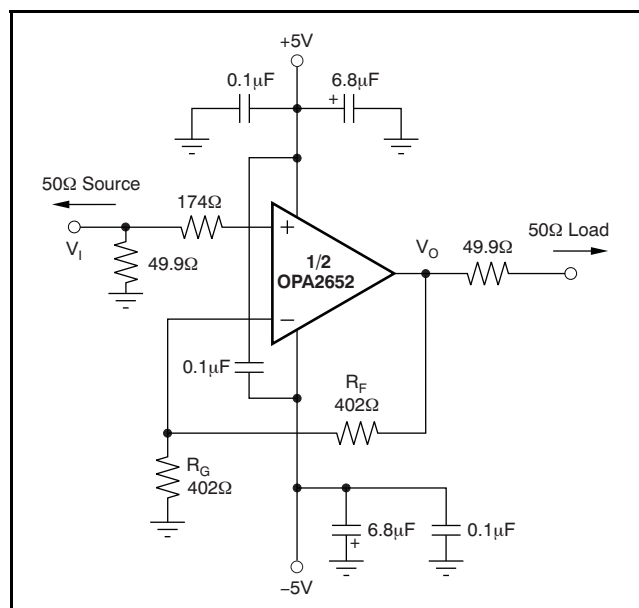
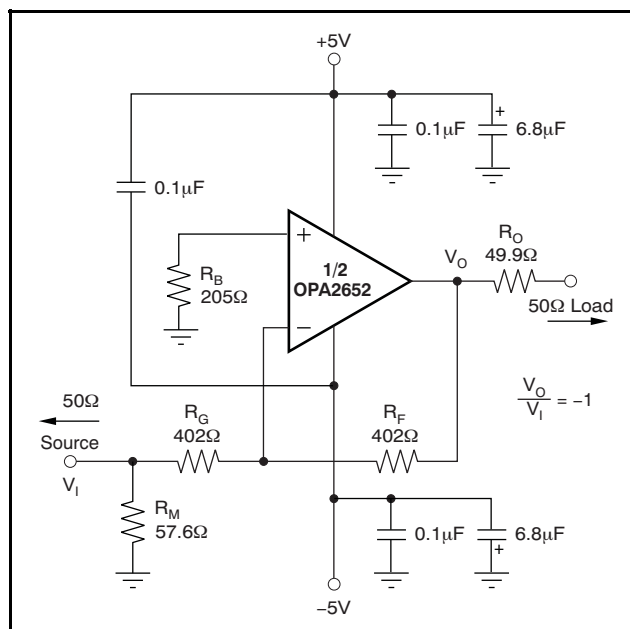

Figure 28. DC-Coupled,  $G = +2$ , Bipolar Supply, Specification and Test Circuit
Figure 29. DC-Coupled,  $G = -1$ , Bipolar Supply, Specification and Test Circuit
At  $T_A = +25^\circ C$ ,  $G = +2$ ,  $R_F = 402\Omega$ , and  $R_L = 100\Omega$ , unless otherwise noted. See Figure 28 and Figure 29 for AC performance only.
At  $T_A = +25^\circ\text{C}$ ,  $G = +2$ ,  $R_F = 402\Omega$ , and  $R_L = 100\Omega$ , unless otherwise noted. See Figure 28 and Figure 29.
At  $T_A = +25^\circ C$ ,  $G = +2$ ,  $R_F = 402\Omega$ , and  $R_L = 100\Omega$ , unless otherwise noted. See Figure 28 and Figure 29.
Figure 28 shows the DC-coupled, gain of +2, dual power-supply circuit configuration used as the basis of the  $\pm 5\text{V}$  specifications and typical characteristics. This configuration is for one channel. The other channel is connected similarly. For test purposes, the input impedance is set to  $50\Omega$  with a resistor to ground and the output impedance is set to  $50\Omega$  with a series output resistor.
Voltage swings reported in the specifications are taken directly at the input and output pins, while output powers (dBm) are at the matched  $50\Omega$  load. For the circuit of Figure 28, the total effective load will be  $100\Omega \parallel 804\Omega$ . Two optional components are included in Figure 28.
Figure 29 shows the DC-coupled, gain of  $-1$ , bipolar supply circuit configuration that is the basis of the specifications and typical characteristics at  $G = -1$ . The input impedance matching resistor ( $57.6\Omega$ ) used for testing gives a  $50\Omega$  input load. A resistor ( $205\Omega$ ) connects the noninverting input to ground. This configuration provides the DC source resistance matching to cancel outputs errors arising from input bias current.
A good rule of thumb is to target the parallel combination of  $R_F$  and  $R_G$  (see Figure 28) to be less than approximately 300Ω. The combined impedance  $R_F \parallel R_G$  interacts with the inverting input capacitance, placing an additional pole in the feedback network, and thus a zero in the forward response. Assuming a 2pF total parasitic on the inverting node, holding  $R_F \parallel R_G < 300\Omega$  keeps this pole above 250MHz. By itself, this constraint implies that the feedback resistor  $R_F$  can increase to several kΩ at high gains. This increase is acceptable as long as the pole formed by  $R_F$  and any parasitic capacitance appearing in parallel is kept out of the frequency range of interest.
Voltage feedback op amps exhibit decreasing closed-loop bandwidth as the signal gain is increased. In theory, this relationship is described by the Gain Bandwidth Product (GBP) shown in the specifications. Ideally, dividing GBP by the noninverting signal gain (also called the Noise Gain, or NG) predicts the closed-loop bandwidth. In practice, this prediction only holds true when the phase margin approaches 90°, as it does in high gain configurations. At low gains (increased feedback factor), most amplifiers exhibit a wider bandwidth and lower phase margin. The OPA2652 is compensated to give a flat response in a noninverting gain of 1 (see Figure 28). This configuration results in a typical gain of +1 bandwidth of 700MHz, far exceeding that predicted by dividing the 200MHz GBP by  $NG = 1$ . Increasing the gain
Because the OPA2652 is a general-purpose, wideband voltage feedback op amp, all of the familiar op amp application circuits are available to the designer. Inverting operation is one of the more common requirements and offers several performance benefits. Figure 29 shows a typical inverting configuration.
In the inverting configuration, three key design consideration must be noted. First, the gain resistor ( $R_G$ ) becomes part of the signal channel input impedance. If input impedance matching is desired (which is beneficial whenever the signal is coupled through a cable, twisted pair, long PCB trace or other transmission line conductor),  $R_G$  may be set equal to the required termination value and  $R_F$  adjusted to give the desired gain. This approach is the simplest, and results in optimum bandwidth and noise performance. However, at low inverting gains, the resulting feedback resistor value can present a significant load to the amplifier output. For an inverting gain of  $-1$ , setting  $R_G$  to 50Ω for input matching eliminates the need for  $R_M$  but requires a 50Ω feedback resistor. This configuration has the interesting advantage that the noise gain becomes equal to 2 for a 50Ω source impedance—the same as the noninverting circuits considered above. However, the amplifier output now sees the 50Ω feedback resistor in parallel with the external load. In general, the feedback resistor should be limited to the 200Ω to 1.5kΩ range. In this case, it is preferable to increase both the  $R_F$  and  $R_G$  values as shown in Figure 29, and then achieve the input matching impedance with a third resistor ( $R_M$ ) to ground. The total input impedance becomes the parallel combination of  $R_G$  and  $R_M$ .
The second major consideration, touched on in the previous paragraph, is that the signal source impedance becomes part of the noise gain equation and influences the bandwidth. For the example in Figure 29, the  $R_M$  value combines in parallel with the external 50Ω source impedance, yielding an effective driving impedance of  $50\Omega \parallel 57.6\Omega = 26.8\Omega$ . This impedance is added in series with  $R_G$  for calculating the noise gain (NG). The resulting NG is 1.94 for Figure 29 (an ideal source would cause  $NG = 2.00$ ).
error, as a result of the input bias currents, is reduced to (Input Offset Current) •  $R_F$ . If the  $50\Omega$  source impedance is DC-coupled in Figure 29, the total resistance to ground on the inverting input will be  $429\Omega$ . Combining this in parallel with the feedback resistor gives  $208\Omega$ , which is close to the  $R_B = 205\Omega$  used in Figure 29. To reduce the additional high-frequency noise introduced by this resistor, it is sometimes bypassed with a capacitor. As long as  $R_B < 300\Omega$ , the capacitor is not required since its total noise contribution is much less than that of the op amp input noise voltage.
The OPA2652 provides good distortion performance into a  $100\Omega$  load on  $\pm 5V$  supplies. Increasing the load impedance improves distortion directly. Remember that the total load includes the feedback network; in the noninverting configuration (Figure 28), this is sum of  $R_F + R_G$ , while in the inverting configuration, it is only  $R_F$ . Also, providing an additional supply decoupling capacitor ( $0.1\mu F$ ) between the supply pins (for bipolar operation) improves the 2nd-order distortion slightly (3dB to 6dB).
Evaluating these two equations for the OPA2652 circuit and component values shown in Figure 28 gives a total output spot noise voltage of  $17\text{nV}/\sqrt{\text{Hz}}$  and a total equivalent input spot noise voltage of  $8.4\text{nV}/\sqrt{\text{Hz}}$ . This noise includes the noise added by the bias current cancellation resistor ( $205\Omega$ ) on the noninverting input. This total input-referred spot noise voltage is only slightly higher than the  $8\text{nV}/\sqrt{\text{Hz}}$  specification for the op amp voltage noise alone. This result will be the case as long as the impedances appearing at each op amp input are limited to the previously recommend maximum value of  $300\Omega$ . Keeping both  $(R_F \parallel R_G)$  and the noninverting input source impedance less than  $300\Omega$  satisfies both noise and frequency response flatness considerations. Since the resistor-induced noise is relatively negligible, additional capacitive decoupling across the bias current cancellation resistor ( $R_B$ ) for the inverting op amp configuration of Figure 29 is not required.
The balanced input stage of a wideband voltage feedback op amp allows good output DC accuracy in a wide variety of applications. Although the high-speed input stage does require relatively high input bias current (typically  $4\mu\text{A}$  out of each input terminal), the close matching between them may be used to significantly reduce the output DC error caused by this current. This reduction is done by matching the DC source resistances appearing at the two inputs. This matching reduces the output DC error resulting from the input bias currents to the offset current times the feedback resistor. Evaluating the configuration of Figure 28, using worst-case  $+25^\circ\text{C}$  input offset voltage and current specifications, gives a worst-case output offset voltage equal to:
As an example, compute the maximum  $T_J$  using an OPA2652E (SOT23-8 package) in the circuit of Figure 28 operating at the maximum specified ambient temperature of +85°C and with both outputs driving 2.5VDC into a grounded 100Ω load.